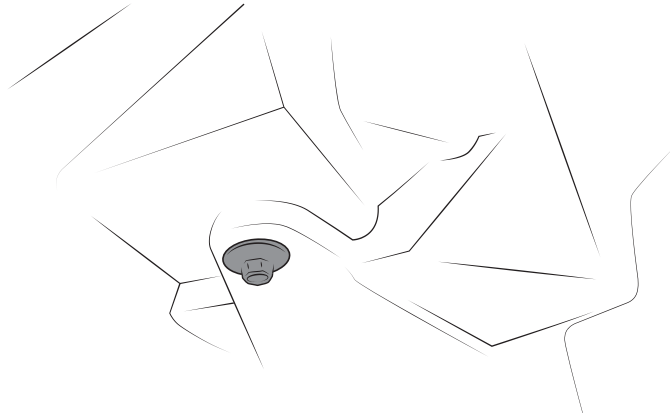

Figure 2
9. Remove the battery tray from the Jeep. Be sure to remove the bolt on the bottom first (fig 2).